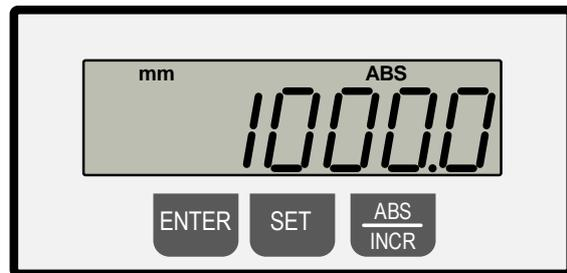

Figure 3: Stored reference dimension (example)
- Keep the buttons **ENTER + SET** pressed at the same time → The reference dimension stored in the unit appears. In our example it is the value “**1000.0 mm**” (see ⇒ Figure 3).
- The setting is complete (see ⇒ Figure 3).
To check, hold down **ENTER + SET** simultaneously → The new calibration value “1150.0 mm” appears in the normal mode (see ⇨ Figure 3).